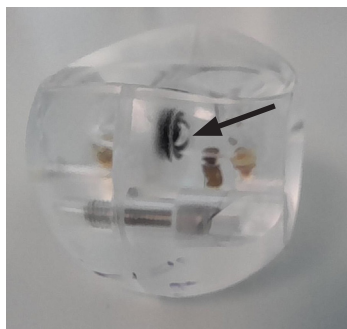

Figure 9. Bubble inside fluid cell assembly.
3. If a bubble forms within the fluid chamber (Figure 9), tilt the fluid cell 45° so the bubble is pointing up towards the sample entry channel and tap the fluid cell gently on a padded surface, such as a lab bench covered with several layers of paper towel, until the bubble detaches and reaches the surface of the chamber. It can then be removed with a pipette tip.